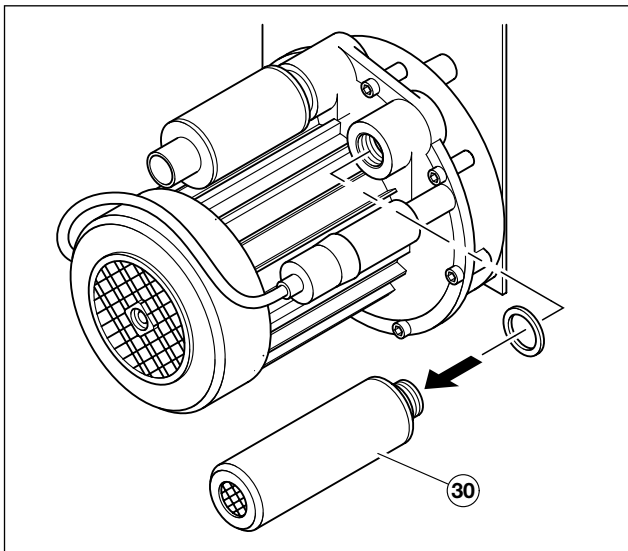

Fig. 8 Clean air filter grill
- ① Unscrew sound damper ③.
- ② Blow out the sound damper from the air outlet by means of compressed air (see arrow, Fig. 8).
- ③ Screw on sound damper again.